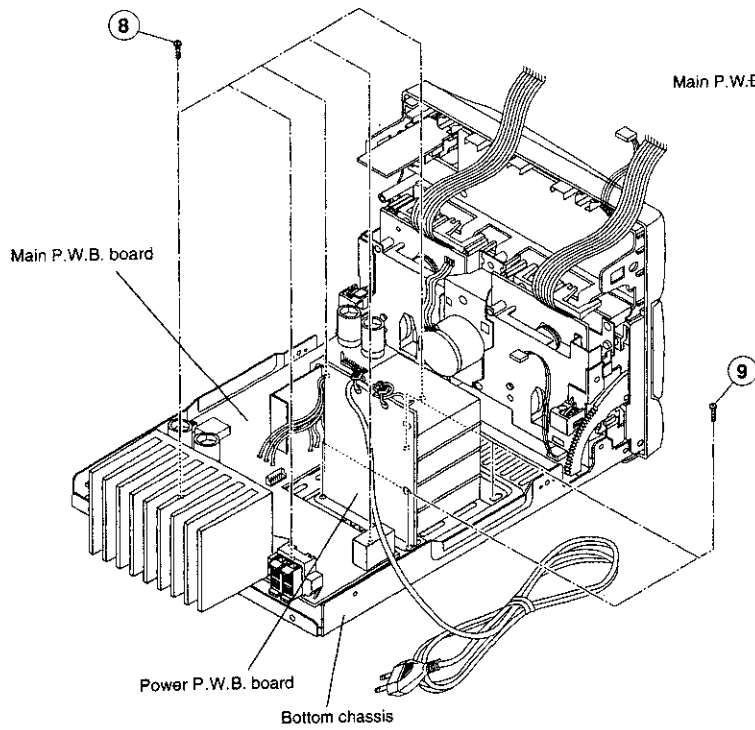

Fig. 6
(1) Release 5 connectors ⑪.
(2) Release 2 flat connectors ⑫.
(3) Remove 2 screws ⑬ from 2 P.W.B. brackets (L) on the bottom chassis.
(4) Gently remove Tape P.W.B. Board from Main P.W.B. Board by pulling the board free of a connector ⑭ from Main P.W.B. Board.
6. **Removal of Main and power P.W.B. Board (Fig. 6)**